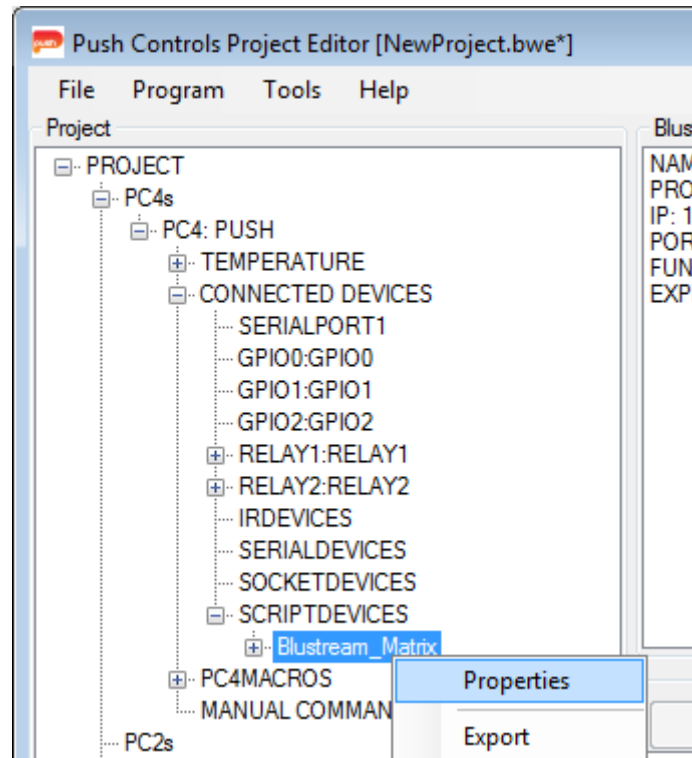

Figure 5 – Finding the Controller's Properties
- Select the controller *Refer to Figure 5*